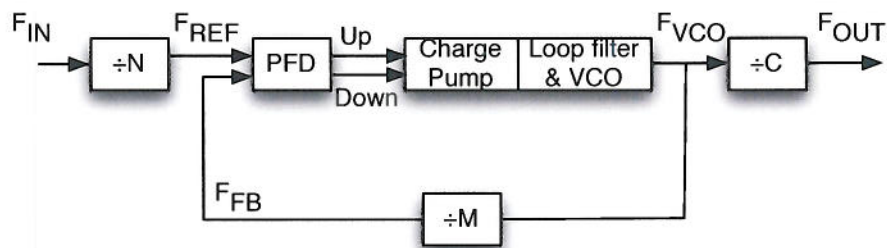

Figure 2.1 A Phase Locked Loop
2. a) Figure 2.1 illustrates a common Phase Locked Loop (PLL) system. Provide a description of its operation.